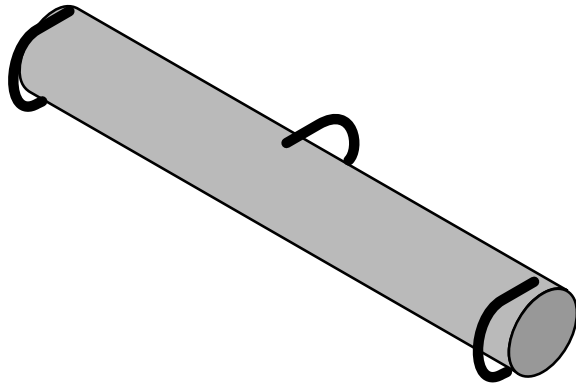

Figure 12: swingletree: the traces will be tied to the ends, and the cart or implement tied to the central loop.
- 6) Lastly attach the breast band to another pair of hooks below the wooden blocks of the saddle or lead traces (pieces of rope or chain) from the ends of the breast strap to a swingletree on the front of the cart. A swingletree is shown in Figure 12. Use of the swingle tree is kinder to the animal because it allows a little movement of the breast strap with the movement of the animals chest as it moves. Make sure that the traces do not rub against the sides of the animal.